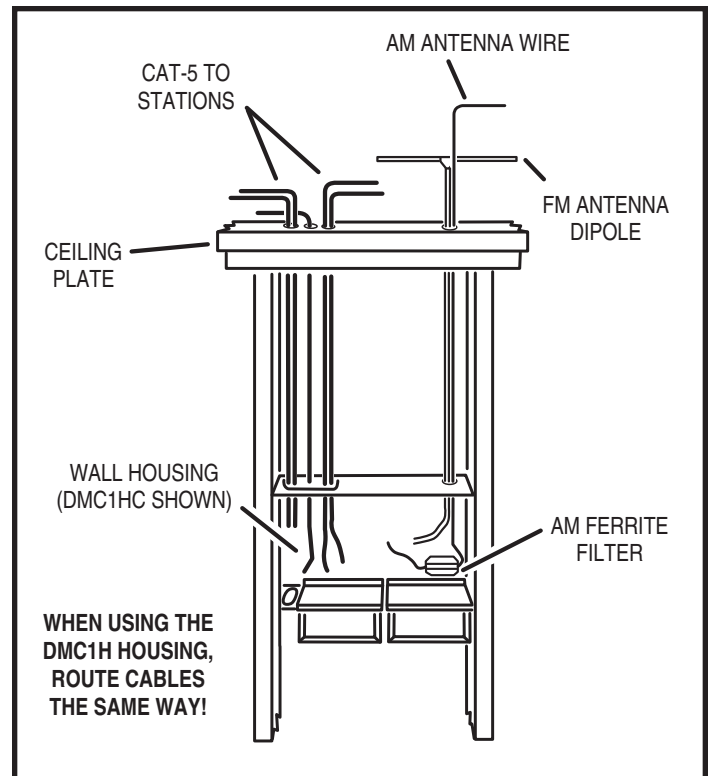

Figure 7. AM & FM Antenna Installation
2. Fish the long end of the antenna wire up through the right hole in the top of the wall housing, up the stud bay, through a hole in the ceiling plate, and up into the attic. Pull all the wire through until the ferrite filter lays inside the wall housing on the right side (see Figure 7).
4. Fish the connector end of the antenna coax down through the hole in the ceiling plate, down the stud bay, and into the hole on the top right side of the wall housing. Leave about one foot of coax extending into the wall housing (see Figure 7).